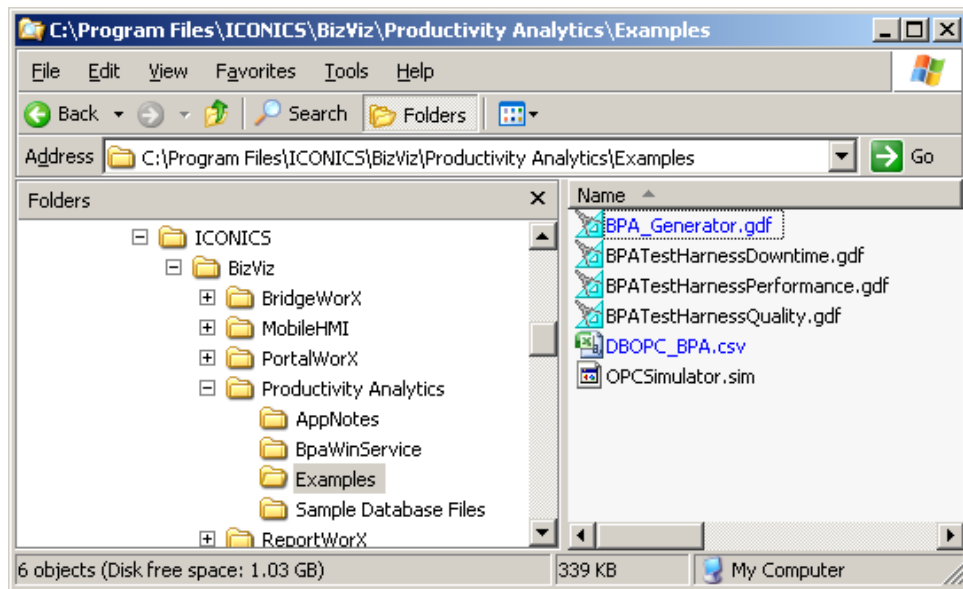

Figure L1.17 Productivity Analytics Folder
1. Open a Windows Explorer, and go to **\Program Files\ICONICS\BizViz\Productivity Analytics\Examples**, as shown in Figure L1.17.